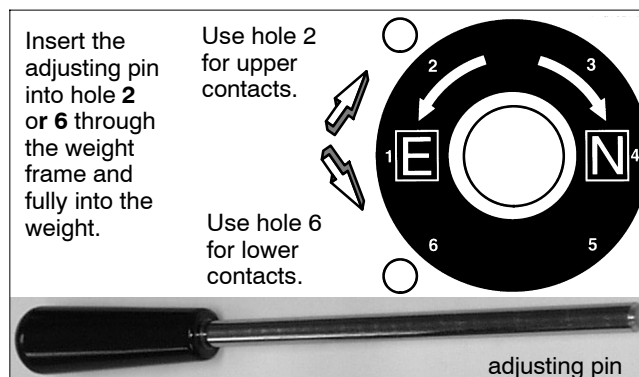

Figure 10-7 Pin the Weight to the Frame
5. **Pin the weight to lock the mechanism.** Fully insert the adjusting pin through the frame and into the weight. Only one of the holes lines up with the hole in the weight. If you are replacing the upper contacts, use the hole labeled 2; if you are replacing the lower contacts, use the hole labeled 6. See Figure 10-7.